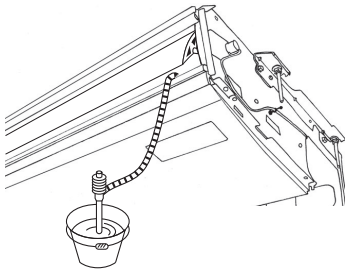

Fig. 5-3
1. Attach the joint socket ⑤ supplied with the unit to the drain port on the unit with a vinyl chloride adhesive.
2. Fasten the socket cover ⑥ supplied with the unit to the joint socket ⑤.
3. Attach the field drain tubing (VP-20) to the joint socket ⑤ with a vinyl chloride adhesive.
4. Wrap the drain tubing cover ⑦ supplied with the unit. (Seam taping)
- Ⓒ Socket cover ⑥
- Ⓓ Joint socket ⑤
- Ⓔ Drain tubing cover ⑦
5. Check for correct drainage. (Fig. 5-3)